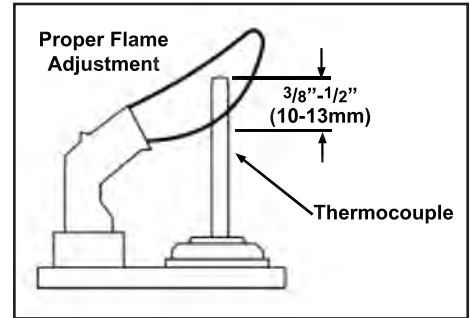

Figure 53: Proper Pilot Flame.
The pilot flow adjustment is pre-set to maximum at the factory and should not need to be adjusted. The pilot flame should envelope $\frac{3}{8}$ " to $\frac{1}{2}$ " (10 to 13mm) of the thermocouple (see Figure 53). However, should the need arise, follow Steps 1- below.
3. Only if installing Adjustable Surround with dimensions within the ranges in Table 1: Slide one mounting bracket back into the inner wide slot, shown in Figure 53, of the left and right trim sides and slide two (2) into the top trim.